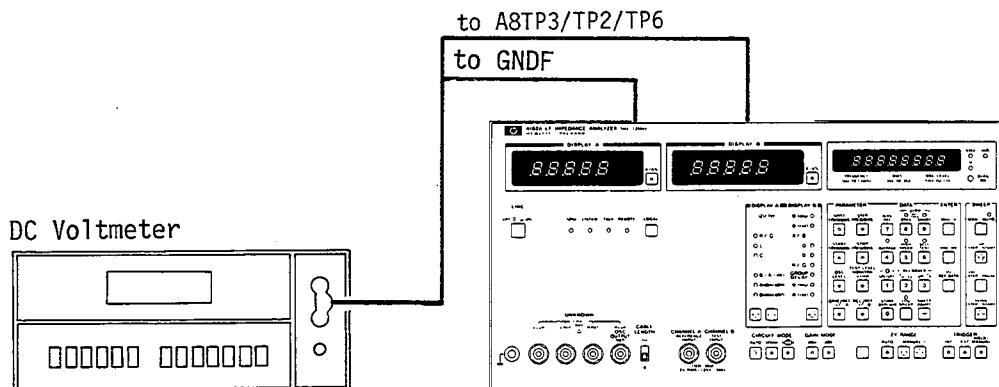

Figure 5-2. A8 DC Bias Check and Adjustment Setup.
- (1) $\pm 40V$ Unregulated Bias Check
- c. Connect the high lead to A8TP3 and the low lead to "GNDF" next to A8TP3 as shown in Figure 5-2.